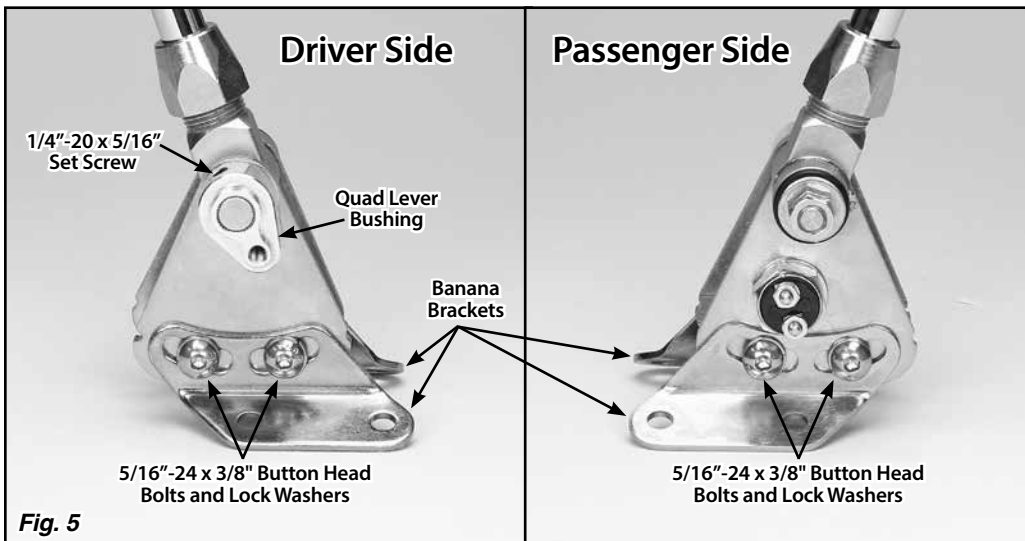

Fig. 5
Step 8: Install the banana brackets onto the shifter assembly using the 5/16"-24 x 3/8" button head bolts with lock washers. The curved, slotted holes in the banana brackets mate up to the shifter, and the bottom of both banana brackets should be pointing towards the rear. **Fig. 5**